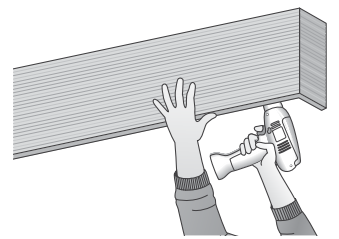

figure 3
4. Place Top Treatment on L bracket, then use supplied #6 x 5/8" wood screws to screw up through bracket holes into header (figure 3).